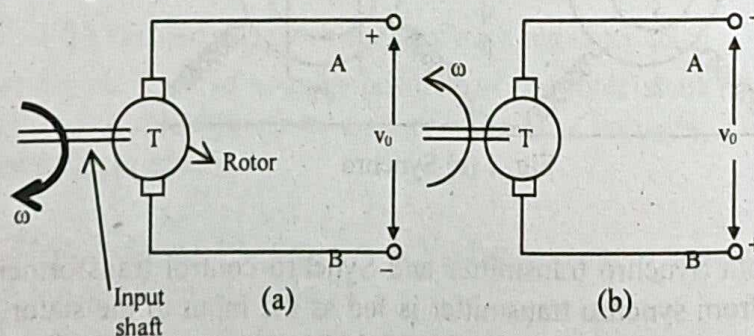

Fig: 1 Dependence of polarity on rotation
- b) polarity depends upon the direction of rotation of the input shaft as shown in Fig. 1. (a) and Fig. 1.(b)
In figure 1.a, the terminal A is positive with respect to B when the armature rotates in clockwise direction (say). If the armature rotation is reversed then A becomes negatively polarised with respect to B (figure 1.b).